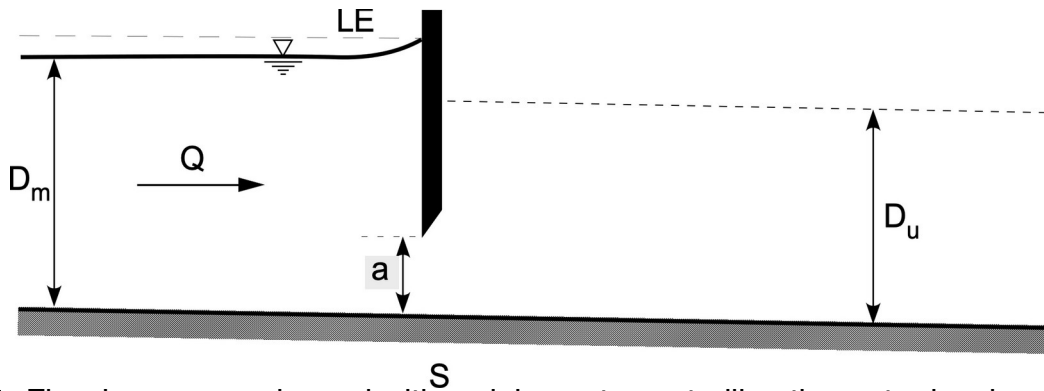

Figure 1: Flow in an open channel with a sluice gate controlling the water level.
**1.1** Compute, and plot the water surface profile that establishes downstream a sluice gate placed in an open channel sufficiently long for ensuring the formation of the uniform flow depth far downstream (Figure 1). The channel has a rectangular cross section of width  $B = 10$  m, a bed slope  $S = 0.001$  and is characterized by a Gauckler-Strickler coefficient  $K_{GS} = 20 \text{ m}^{1/3}/\text{s}$ . The gate opening is  $a = 0.5$  m and allows to convey a discharge  $Q = 20 \text{ m}^3/\text{s}$ . The gate edge is sharp and, hence, the contraction coefficient can be taken equal to  $C_c = 0.61$ . Check for the possible formation of a hydraulic jump and, in case, localize it using the conjugate depth relation.